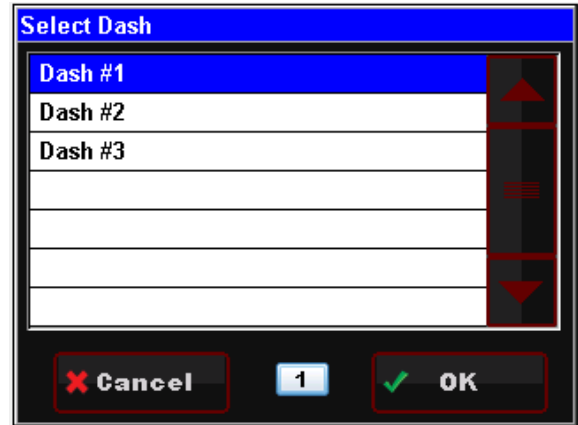

Figure 59
Step 2: Choose the Dash number to be configured (Figure 59).